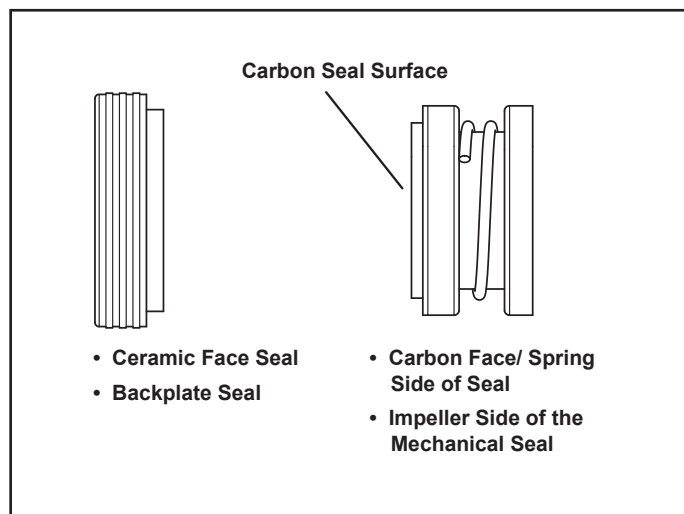

Figure 8. Replace the Mechanical Seal
1. Press the carbon face seal half, see Figure 8, on the motor shaft using a twisting motion. Make sure the carbon surface is facing toward the ceramic ring in the backplate.
2. Remove the carbon face seal half from the motor shaft, see Figure 8. This is a spring-loaded seal. Grasp the portion of the seal closest to the impeller body and pull the seal off using a twisting motion.